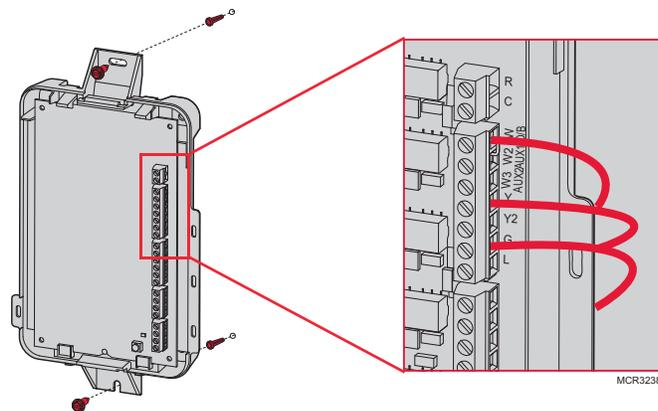

Fig. 9.
2. To wire the EIM, strip 1/4” insulation, then insert wires (see Fig. 9). For wiring diagrams, see “Wiring” beginning on page 134.